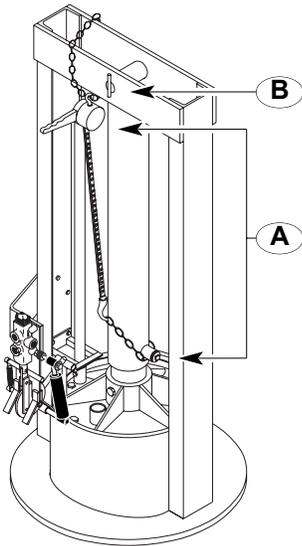

fig. 4
7. Hook the winch at the top of the pumping tube and attach the chain around the bottom of the cylinder envelope, then crank the winch a little to take the weight of the cylinder off the pin at the top of the pumping tube — *fig. 4 detail A*.
8. Remove the pin at the top of the pumping tube cylinder — *fig. 4 detail B*.